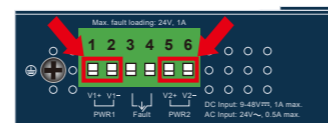

Figure 3-1: IMG-2100T/2105AT/2102T/2102TS Upper Panel
1. Insert positive/negative DC power wires into **Contacts 1 and 2** for **Power 1**, or **Contacts 5 and 6** for **Power 2**. Figures 3-1 to 3-3 show PWR1 and PWR2 of the Industrial Modbus Gateway.